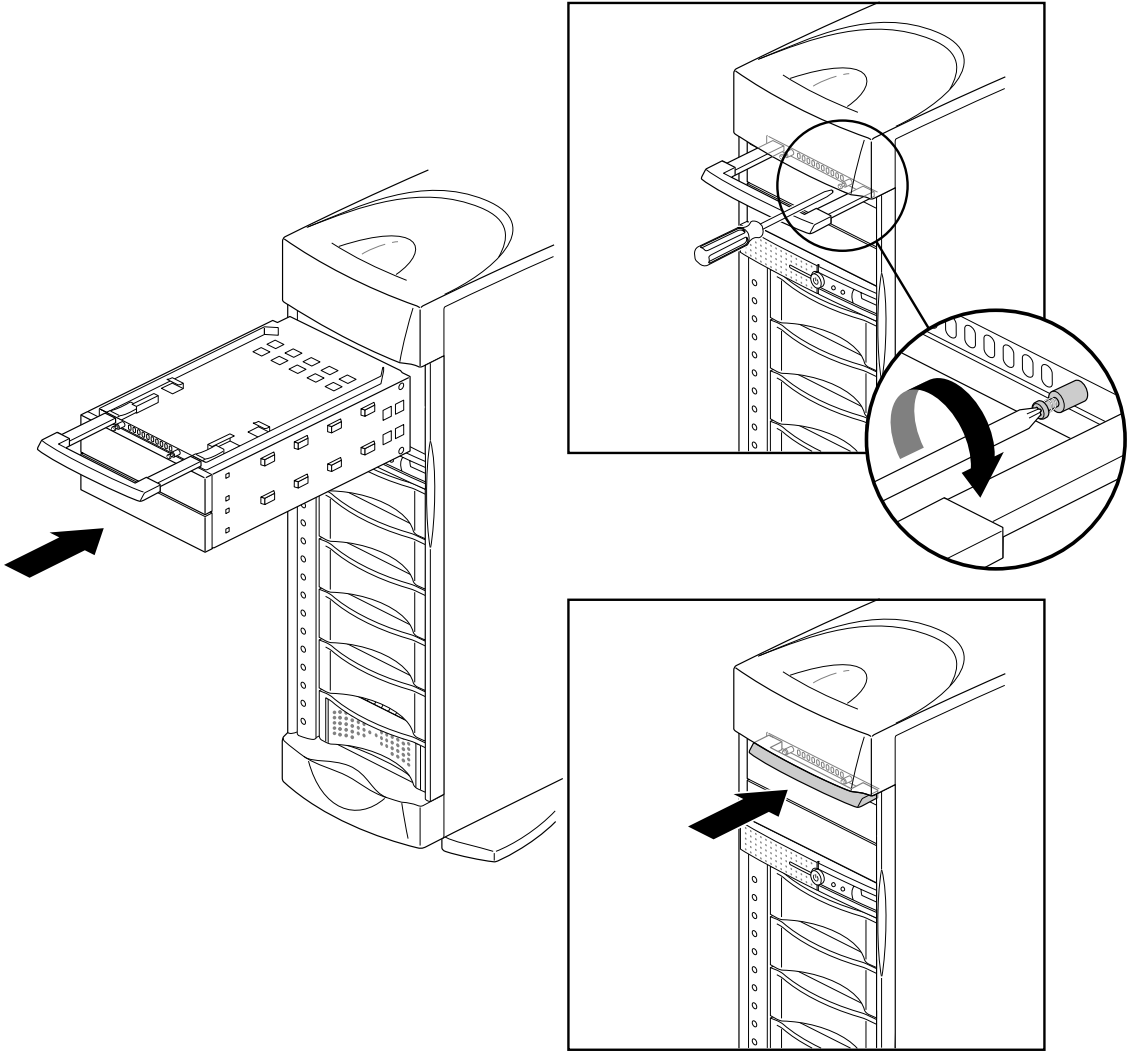

Figure 2-16 Replacing the 5.25-Inch Peripheral Carrier
- 8. Slide the carrier into the system, secure it with the captive screws, and push in the retractable handle. See Figure 2-16.